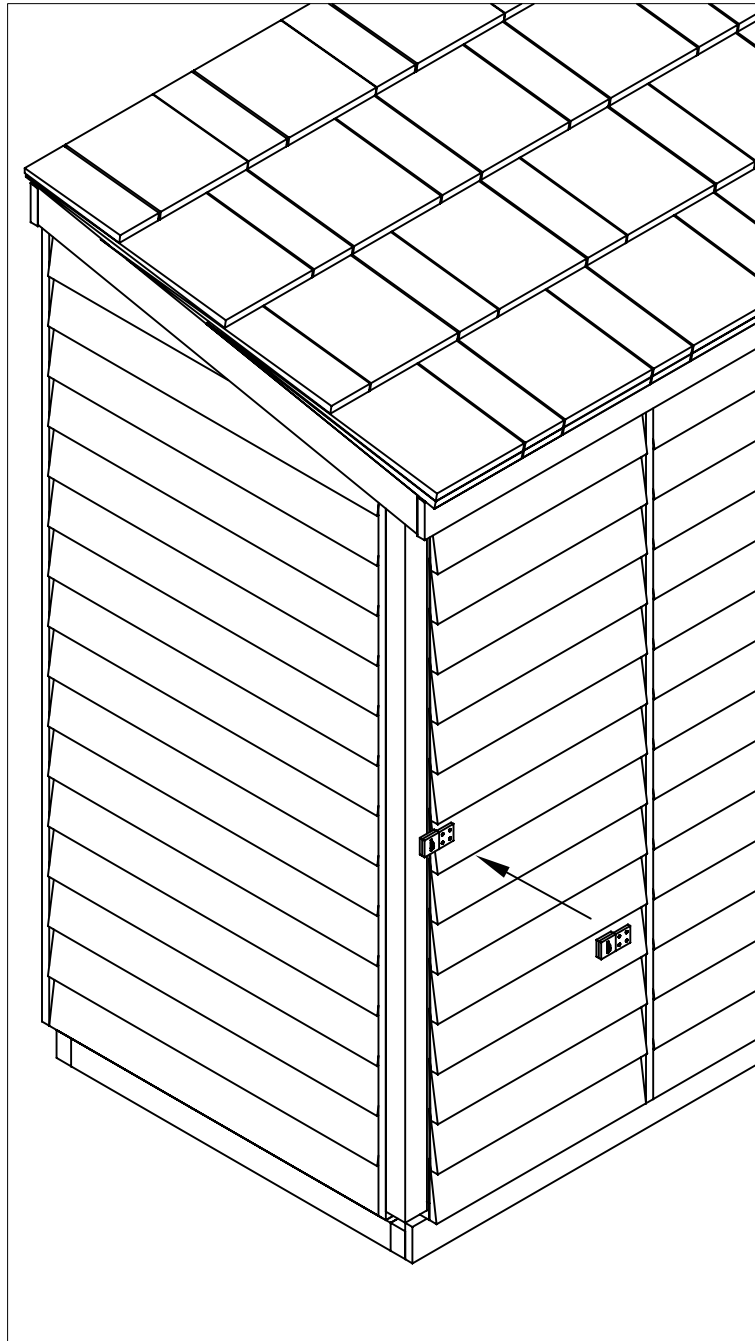

FIGURE S14
- Finally fasten the latch lock in the desired location ("Figure S14"). You may wish to predrill using the  $\frac{1}{16}$ " drill bit to avoid splitting the wood.